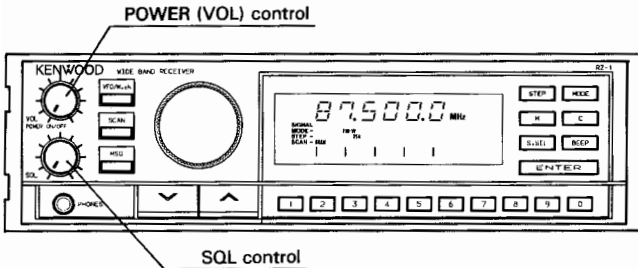

Fig. 1
2. Turn ON the DC power supply and then turn the receiver's power switch ON. After a few second the display panel will indicate as shown in Fig. 1 and some control's and key's lights will turn on.
If the display is not as shown Fig. 1 reset the microprocessor using the procedure in **Section 4-3-2** Page 18 ~ 19.